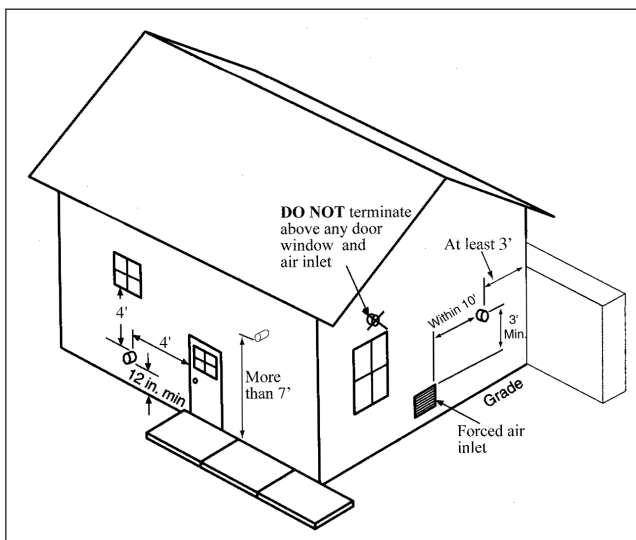

Fig. 15 - Termination Clearances of Category IV System
5. The vent termination must also maintain the following clearances; as shown in *Fig. 15 below*.
5. The vent termination must also maintain the following clearances; as shown in *Fig. 15 on page 20* .